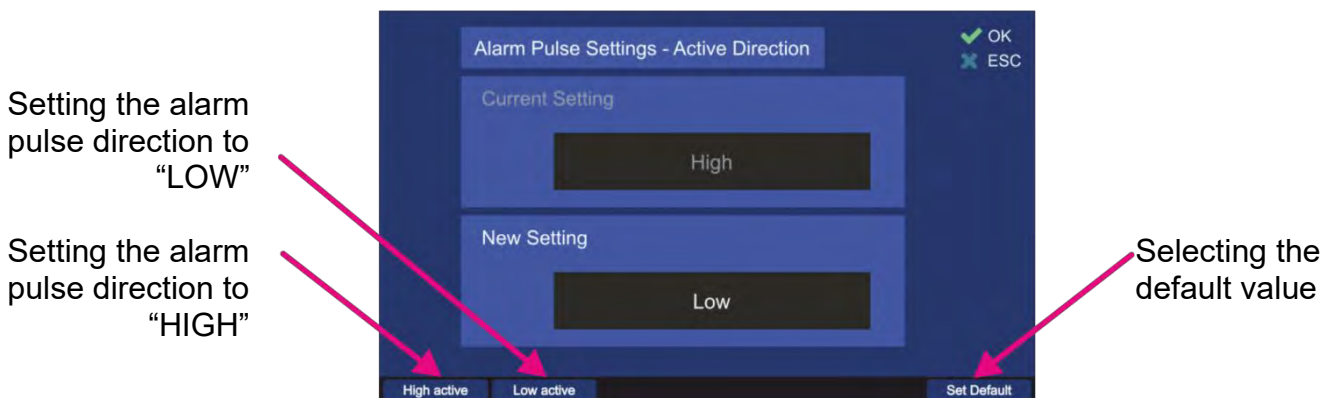

Fig. 108 Active direction dialog
- By pressing the hotkey “Edit Value”, the dialog for changing the active direction of the alarm output will be opened. The handling of this dialog is shown in Fig. 108.